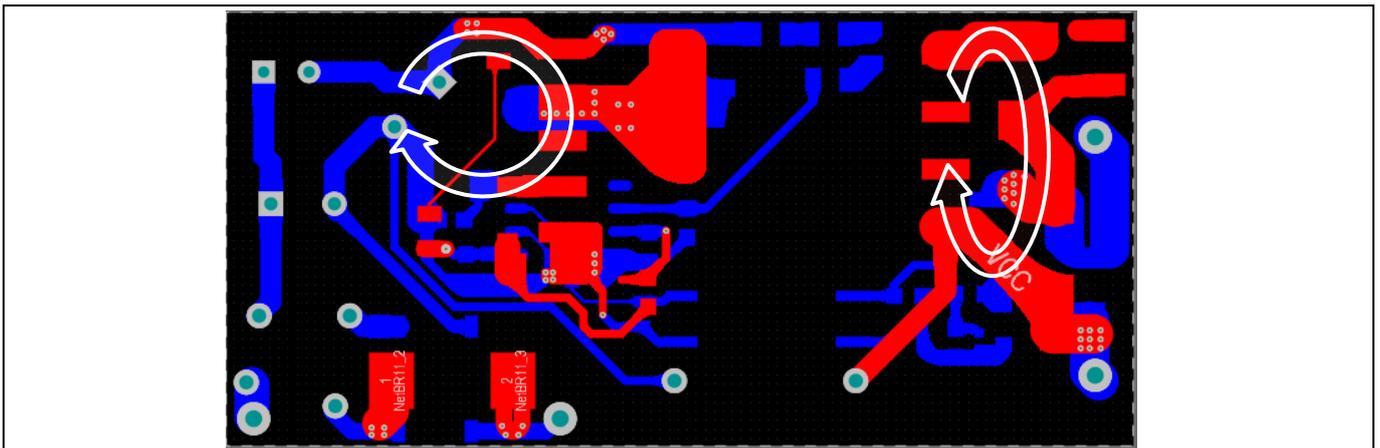

Figure 5 PCB layout tips
- The power loop needs to be as small as possible (see Figure 5). There are two power loops in the demo design; one from the primary side and one from the secondary side. For the primary side, it starts from the bulk capacitor (C13A) positive to the bulk capacitor negative. The power loop components include C13, the main primary transformer winding (pin 1 and pin 2 of TR1), the drain pin and the CS pin of the CoolSET™ IC11 and CS resistor. For the secondary side, the 5 V output starts from the secondary transformer windings (pin 9 of TR1), output diode D21 and output capacitors C22, L21 and C24.
- Separating the HV components and LV components, e.g. V_{BUS} and CoolSET™ drain at the top part of the PCB (see Figure 5) and the other LV components at the lower part of the PCB, can reduce the spark-over chance of the high-energy surge during ESD or a lightning surge test.